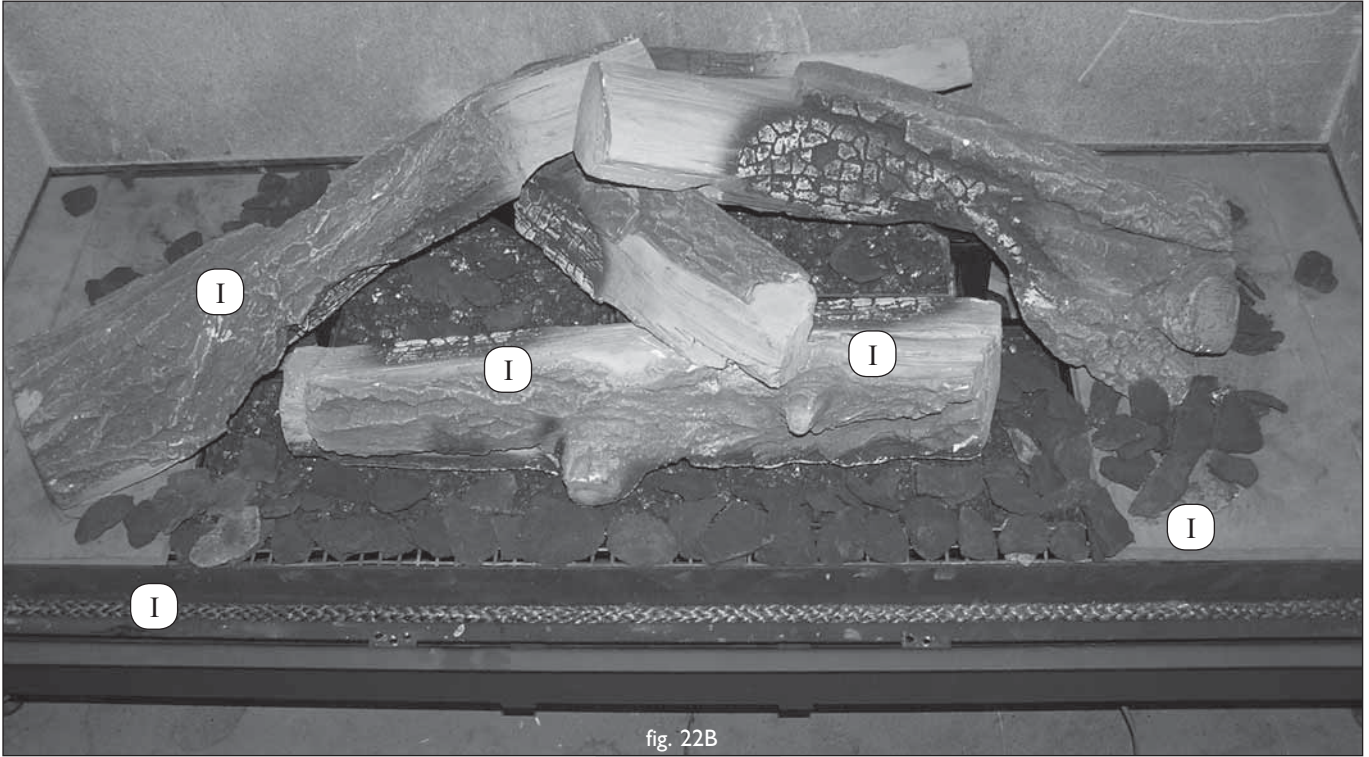

fig. 22B
- You can then lay a few chippings on the other burners to create a glowing-embers effect, see fig. 22B. Be careful not to place any chippings near the cross-lighting sections of the burners. These are where the burners are ignited by the “cross-lighting burner”. (The back burners must not be completely covered with chippings. A few chippings are allowed).
- Finally, spread some chippings round the logs on plates F and G, as shown in fig. 22B.